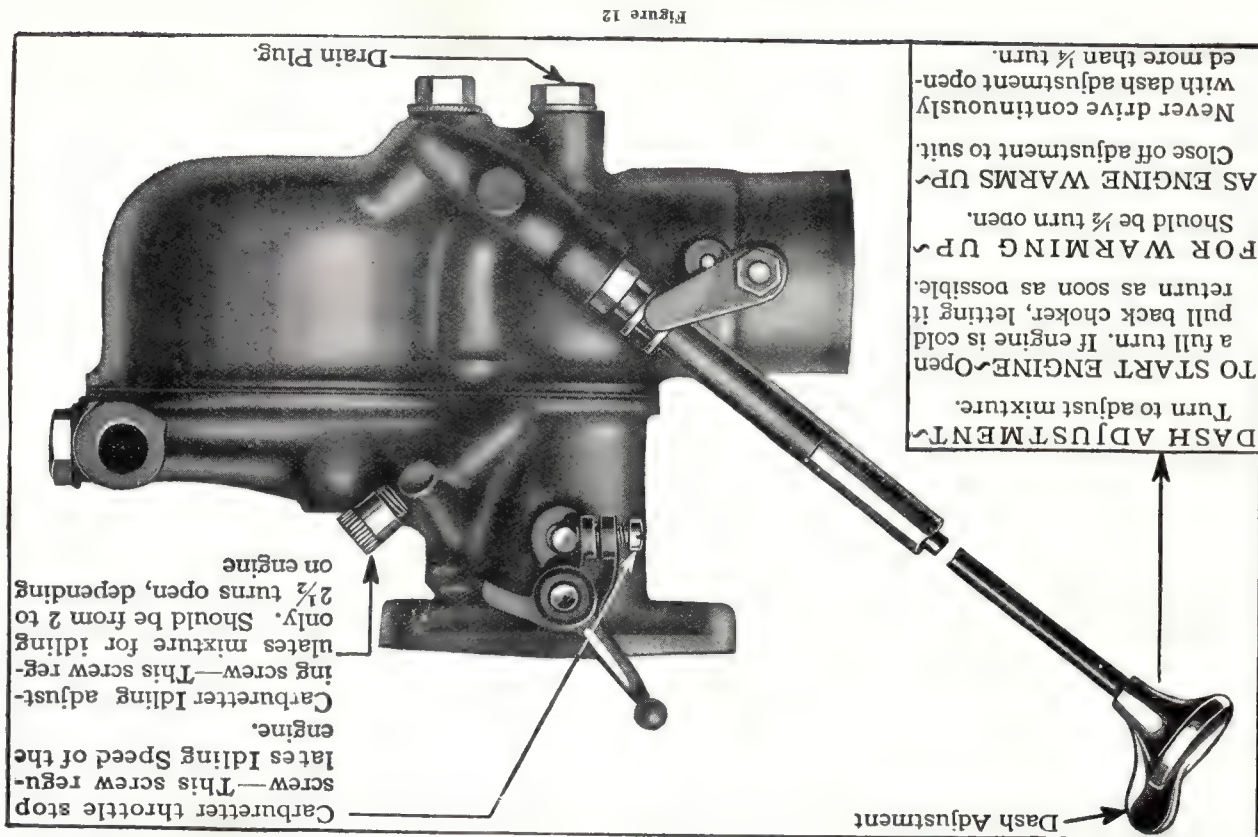

Figure 12
- (a) Cleaning.—Occasional cleaning will ensure the best carburetter operation. Close the valve under the fuel tank, to prevent loss of fuel. Loosen the small nut and remove the carburetter strainer (see Fig. 11). Clean this strainer and replace, being sure to turn the nut up tight. It is a good plan to occasionally remove the drain plug at the bottom of the carburetter (see Fig. 12), and drain for a few seconds.
- (d) **To Set Idling Adjustment.**—Fully retard the spark lever. Set the carburettor throttle stop screw (see Fig. 12) so that the engine will run sufficiently fast to keep from stalling. Turn the idling adjustment screw (see Fig. 12) in or out until the engine hits evenly without rolling or skipping. The correct setting of the idling adjustment screw is approximately 2 to 2½ turns from its seat. Next turn off stop screw until the exact engine idling speed is obtained. This adjustment should be made with the engine warm.